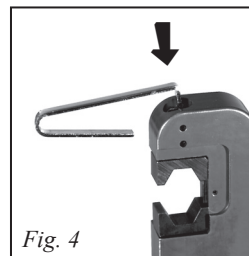

Fig. 4
1. Remove upper die: With crimp handle open, place the die removal tool against the end of the front die and tap with a small hammer. (Fig. 4) The die will be released from the front die holder and can now be easily removed by hand.